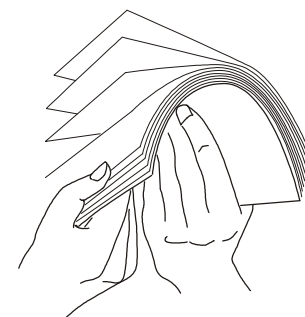

Fig. 14 Fanning the Paper
- Obtain a fresh ream of paper. Best results will be obtained using regular copier or laser printer paper (see "Paper Quality Guidelines"). Hold the ream on the long edge and bend it in and out. Repeat on the short edge. Square it off properly (Fig. 14).